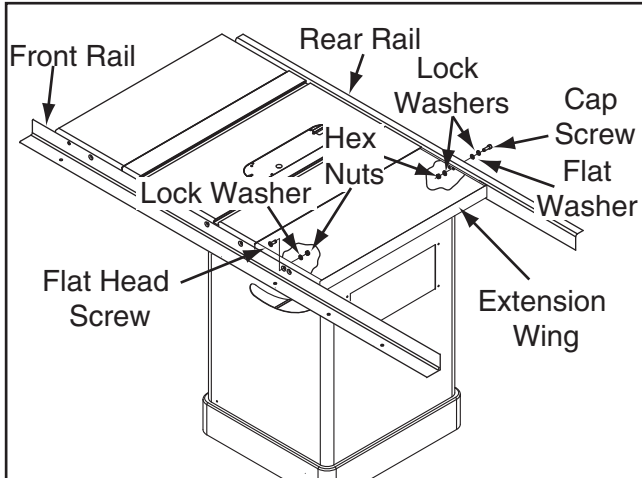

Figure 24. Extension wing attached to Model G0696X/G0697X.
2. With the assistance of a helper, place the extension wing between the rails, and fasten the wing to the front rail with (1) M8-1.25 x 25 flat head screw, 8mm lock washer and M8-1.25 hex nut (see **Figure 24**). Finger tighten for now.
3. Attach the extension wing to the rear rail with (1) M8-1.25 x 25 cap screw, (2) 8mm lock washers, (1) 8mm flat washer and (1) M8-1.25 hex nut, as shown in **Figure 24**. Finger tighten for now.